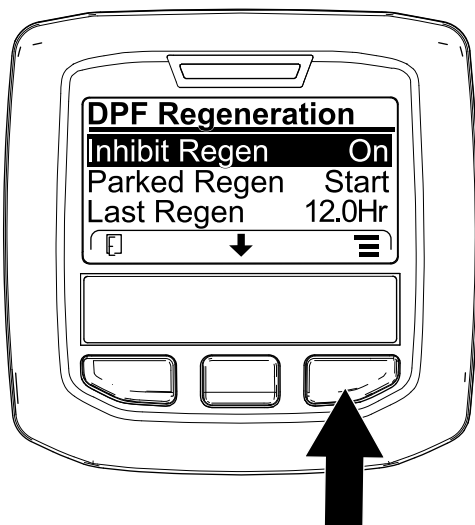
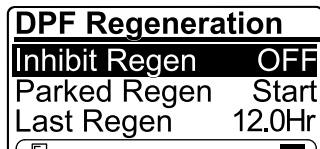

Figure 60
Figure 61
1. Access the DPF Regeneration menu, press the center button to scroll down to the INHIBIT REGEN option, and press the right button to select the Inhibit Regen entry (Figure 60).
2. Press the right button to change the inhibit regeneration setting from On to Off (Figure 60) or from Off to On (Figure 61).